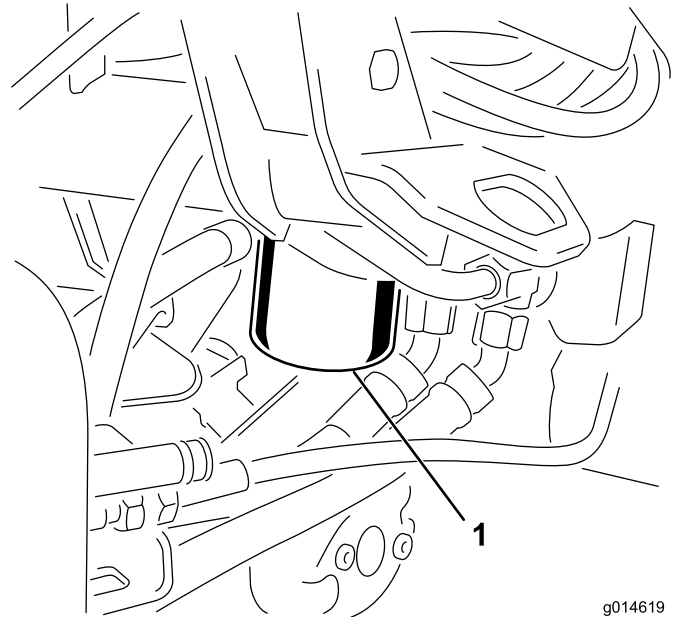

Figure 42
1. Clean the area around the filter mounting area (Figure 42). Place a drain pan under the filter and remove the filter.